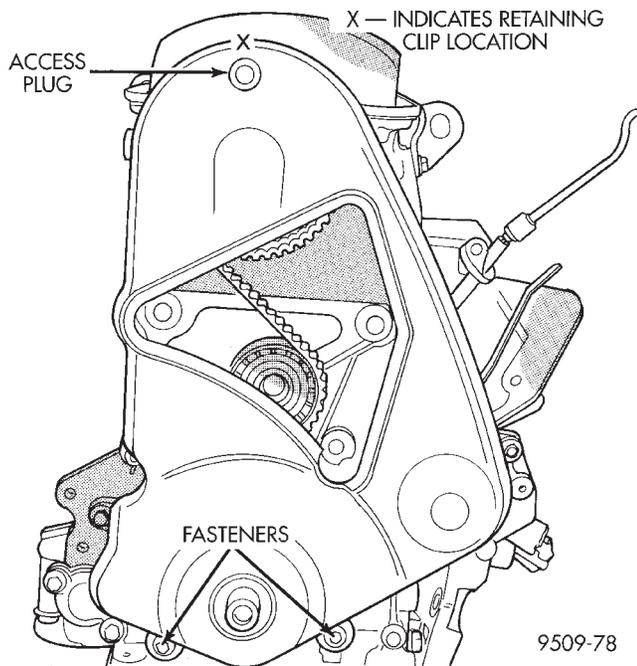

Fig. 24 Timing Belt Cover
- (1) Remove accessory drive belts. Refer to Group 7, Cooling System for procedure outlined in that section.
- (2) Remove crankshaft vibration damper. Refer to procedure outlined in this section for removal.
- (3) Remove front timing belt cover (Fig. 24).